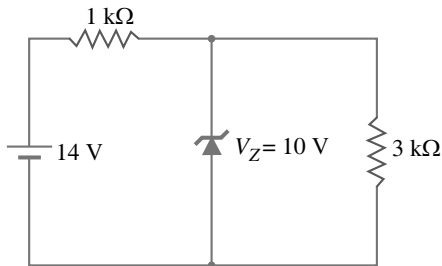

Fig. 4.91
17. In the circuit shown in Fig. 4.91, is zener diode in the on or off state? [Off]